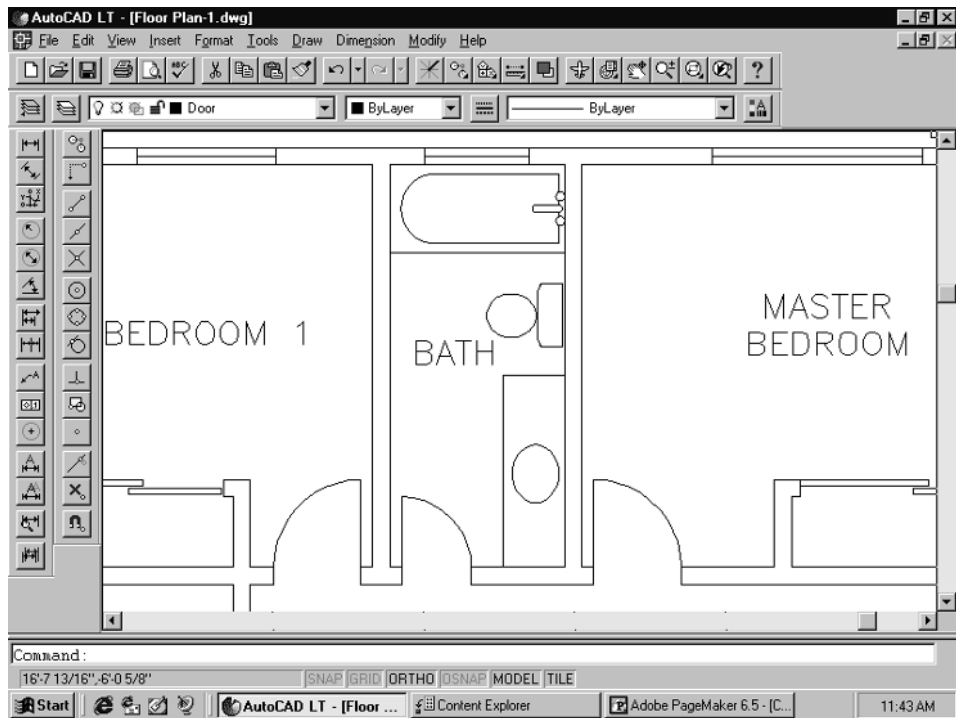

Figure 2-101
3. Add the water closet and the tub/shower using the same method. If you make a mistake, either use Undo or just erase the symbol and insert it again. Figure 2-101 shows the finished Bath.